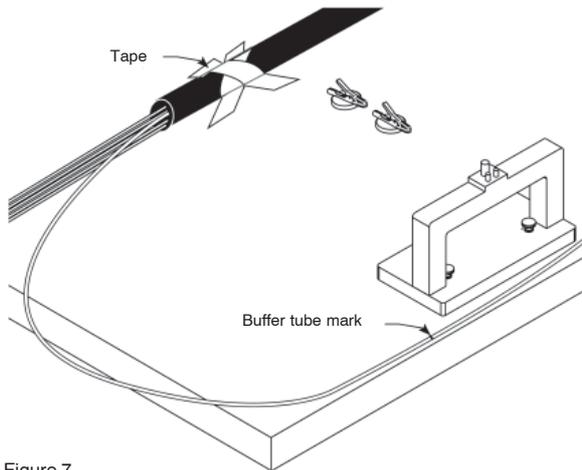
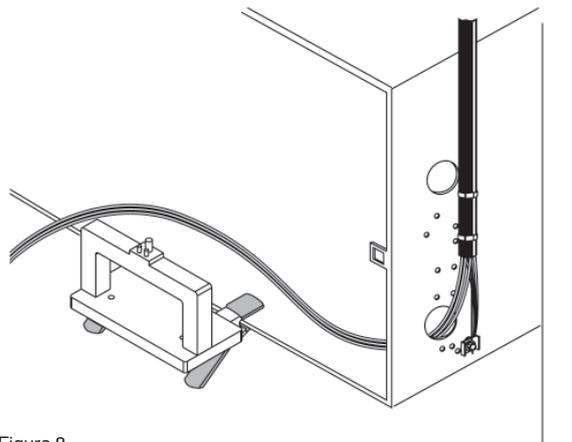

Figure 7
Figure 8
**6.1** Secure the cable end to the work surface with tape (Figure 7) or secure it in the terminating hardware as shown in Figure 8.